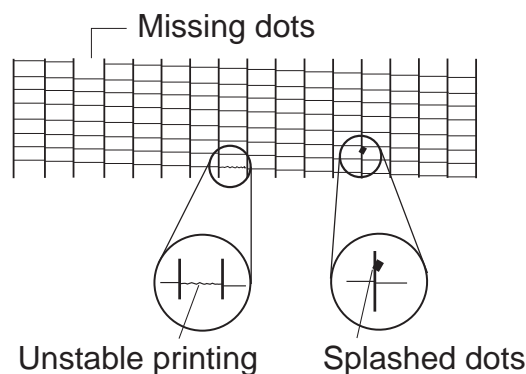

Figure 4-7 Defective Pattern (Sample)
- (1) Check that the orange cap or tape is not on the printhead.
- (2) Remove the printhead and re-install it.
- (3) Carry out nozzle cleaning on the printhead five times with the cleaning operation, than visually check the test print for non-discharge of ink from nozzle. (Fig. 4-7)
- (4) Remove and reinstall the printhead.
- (5) Replace the appropriate ink tank.
- (6) Replace the printhead.
- (7) Replace the purge unit.
- (1) Carry out nozzle cleaning on the printhead five times with the cleaning operation, than visually check the test print for non-discharge of ink from nozzle. (Fig. 4-7)
- (2) Remove and reinstall the printhead.
- (3) Replace the appropriate ink tank.
- (4) Replace the printhead.
- (5) Check the connection of the carriage ribbon cable and the SPCNT board.